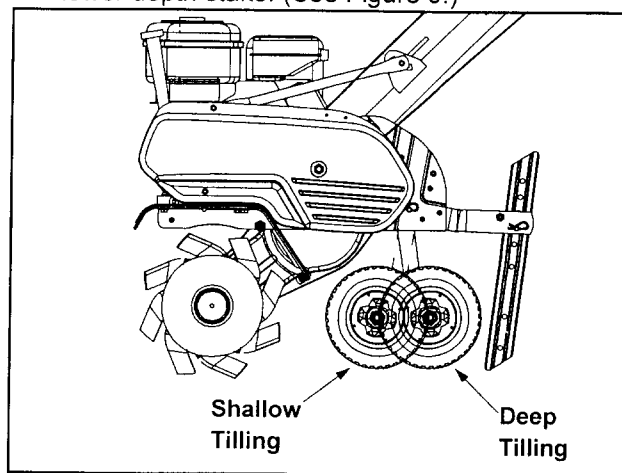

Figure 11
1. **Wheel Yoke Adjustment:** Place wheel yoke so that the wheels are forward (nearest yoke point between wheels and tines) for shallow tilling, cultivating and transport. The forward speed will increase. Turn yoke around (farthest point between wheels and tines) for deep tilling. Forward speed will decrease. (See Figure 11.)